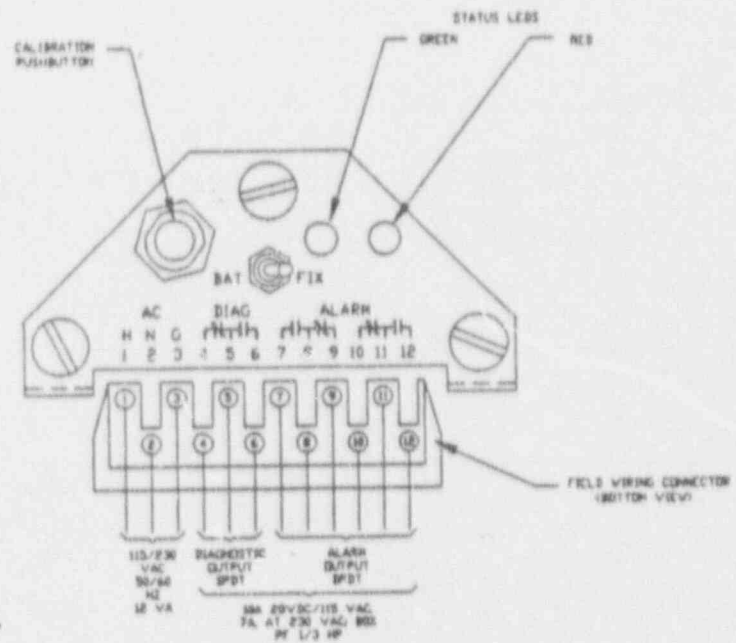

Figure 3.6 - Electrical Installation
All electrical connections are made on the connector that attaches to the electronics assembly. (Refer to Figure 3.6.) Both the normally open and normally closed relay contacts are available on the connector. For fail-safe alarm purposes, usually the normally closed (NC) contacts are used.